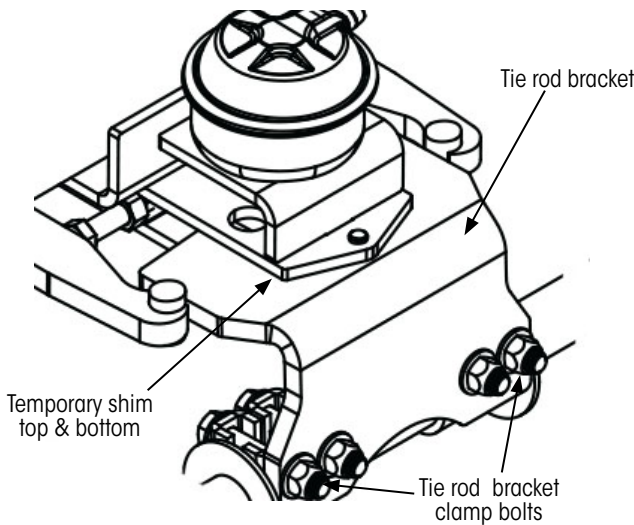

Figure 33: Aligning tie rod lock plate
3. **Insert** temporary shims above and below tie rod bracket (Figure 33) to evenly space (center) the tie rod bracket vertically in lock-straight assembly.